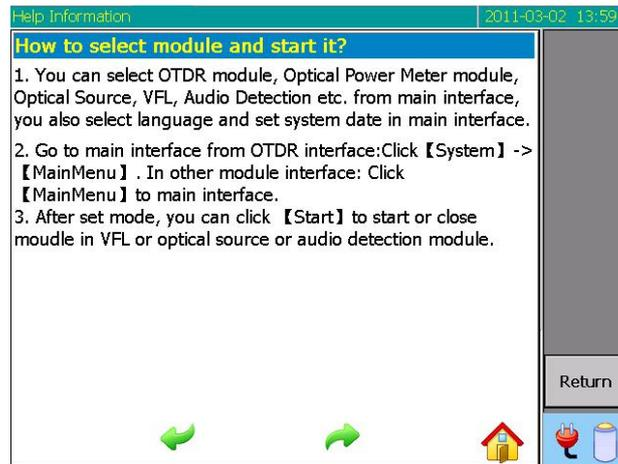

Figure 8-47 Help sub topics
- Press **◀/▶** or press **← / →** to page backward or forward to display different Help Sub Topics, as shown in Figure 8-47.